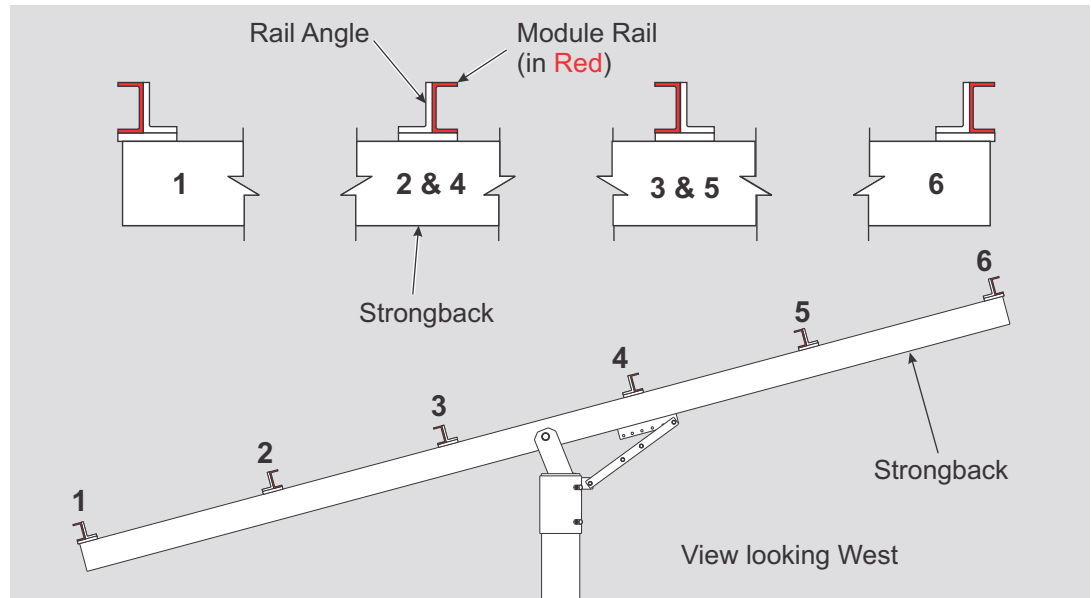
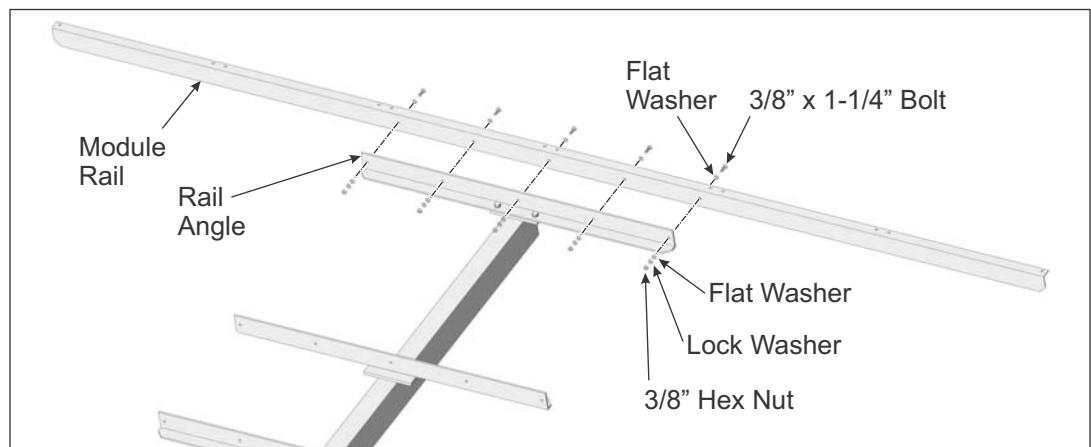

Figure 4-1: Orientation of Module Rails to Strongback
Figure 4-2: Installing Module Rail to Rail Angle
Module Rails must also be properly oriented to the Strongback. If not the PV Modules will not align to the mounting holes of the Module Rails. (See Figure 4-1)
- A. Referring to Figure 4-1 for orientation of the inboard Module Rails, position the first section of Module Rail (with its angle cut end positioned north) at the northern most position on the Cross-Bars. Align the Module Rail mounting holes with the holes of the Cross-Bar mounting tabs and secure with 3/8" x 1-1/4" bolts and hardware. Finger-tighten for now. (See also Figure 4-2)